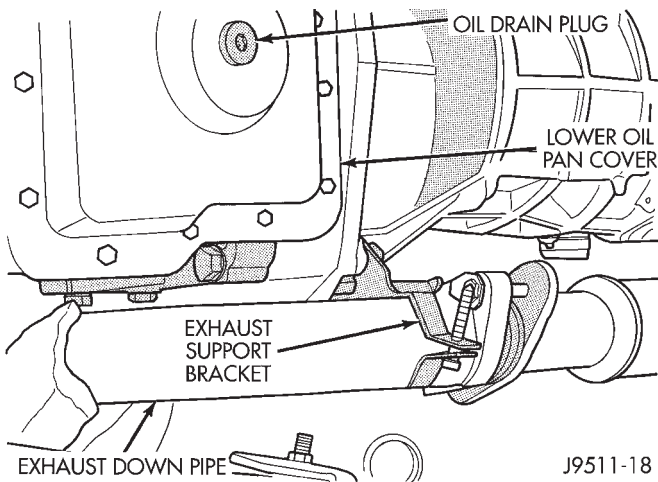

Fig. 2 Exhaust Down Pipe to Front Exhaust Pipe
- (1) Raise and support the vehicle.
- (2) Saturate the bolts and nuts at turbo down pipe to exhaust pipe with heat valve lubricant. Allow 5 minutes for penetration.
- (3) Disconnect bolts from exhaust pipe to turbo down pipe (Fig. 2).